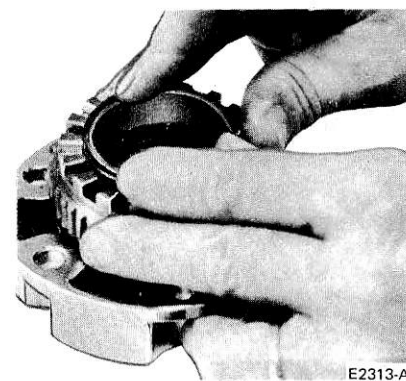

FIG. 21 Pressure Spring and Outer Clutch Gear Installation
7. Install the pressure spring and outer clutch gear. Compress the pressure spring by forcing down on clutch gear and assemble snap ring. Make sure snap ring is secure in the groove of the cam. Turn actuator knob to free position. Assemble six dished washers to the six retainer screws exactly as shown (Figs. 21 and 22).